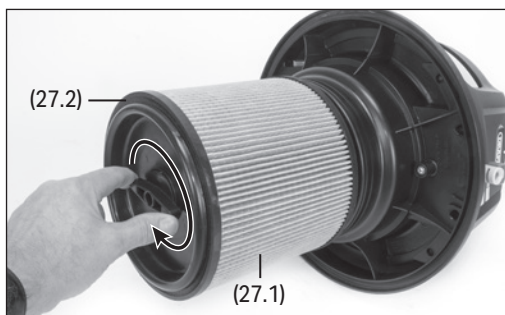
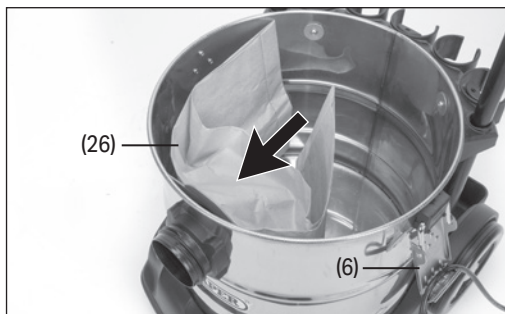

Fig. 11
Fig. 12
9.1 Dry Vacuuming (Fig. 11 & Fig. 12)